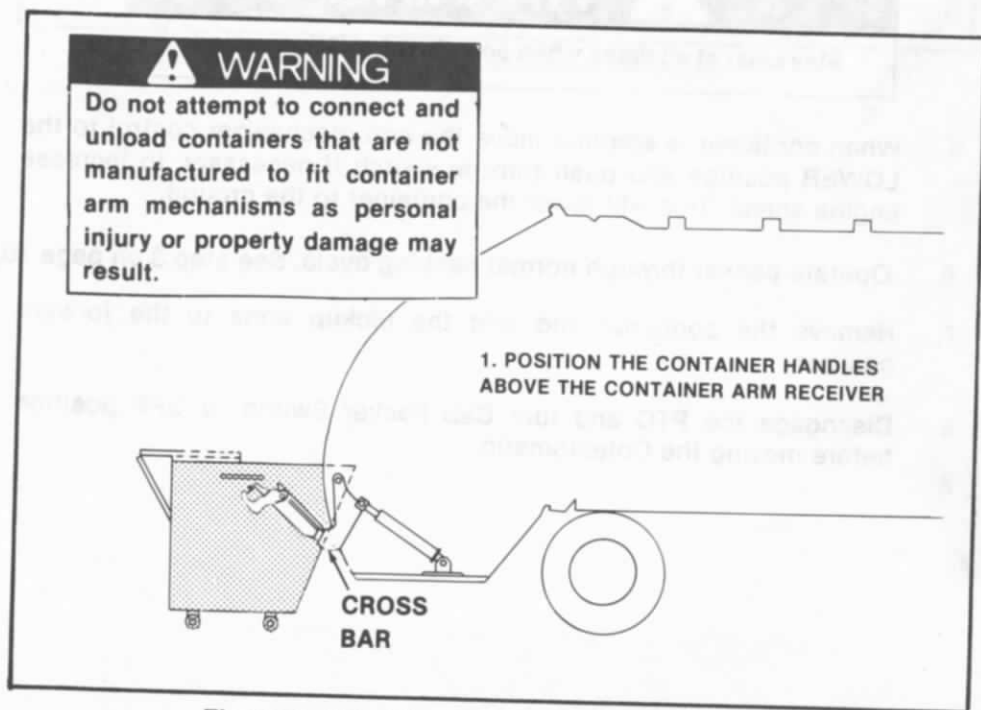

Figure 8. Attaching Container to Arm Mechanism
2. With container arm mechanism in its lowered position unfold both pickup arms to rearward position. (See Figure 8.)